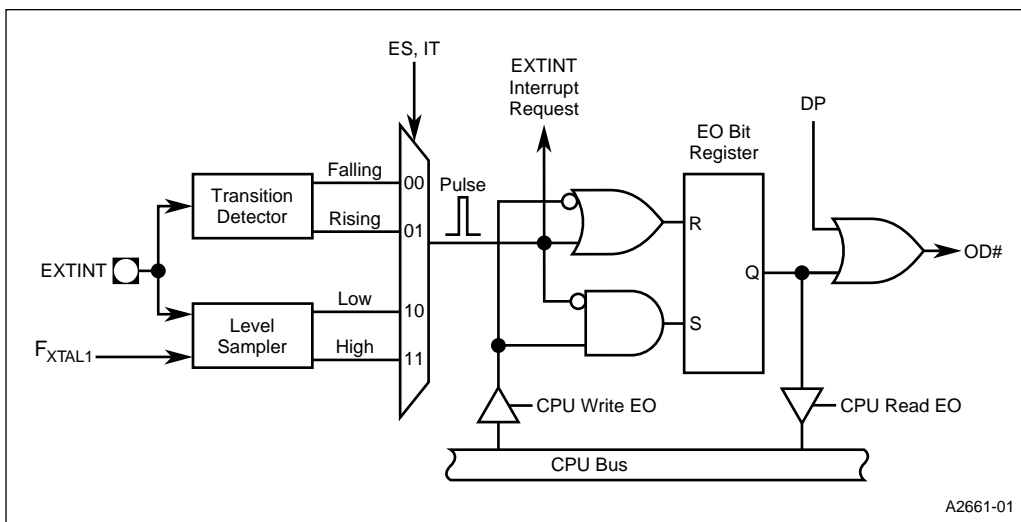

Figure 9-3. Protection Circuitry
The protection circuitry (Figure 9-3) monitors the EXTINT pin. When it detects a valid event on the input, it simultaneously disables the outputs and generates an EXTINT interrupt request. Software can also disable the outputs by clearing the enable outputs (EO) bit in the protection (WG_PROTECT) register.